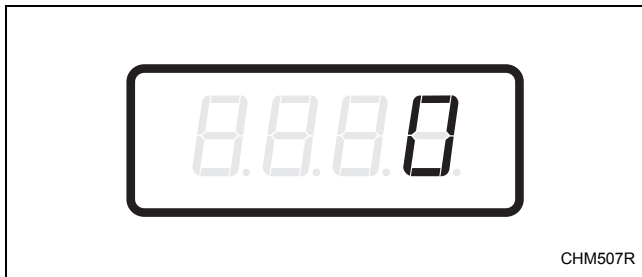

Figure 23
2. When “SA15” appears in the display, press the START (enter) keypad. There are five digits in the Special Vend A Vend Price #5. The fifth digit will appear in the display and will flash one second on and one second off. Refer to *Figure 23*.